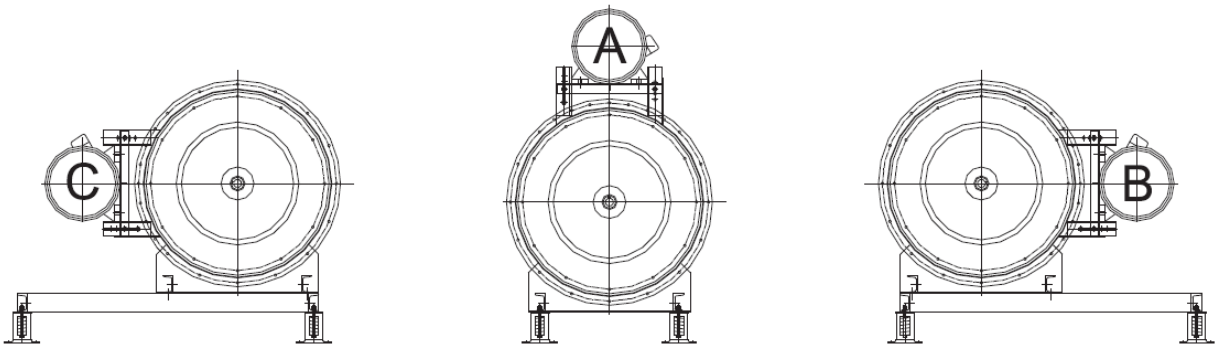

Fig. 1
Horizontal seat-mounted (See Fig 1)
- 4.6 For Belt drive fan, inspect and ensure the pulley alignment. (See Fig 1)